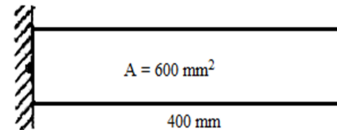

Figure 10
9. (a) Consider a uniform cross-section bar as shown in Figure 10 of length L made up of material whose Young's modulus and density is given by E and ρ . Estimate the natural frequencies of axial vibration of the bar using lumped mass matrix. Consider the bar as one element. [7M]
- (b) For the one dimensional bar shown in Figure 10, determine natural frequencies of longitudinal vibration using two elements of equal length. Take $E = 2 \times 10^5\text{ N}/\text{mm}^2$, $\rho = 0.8 \times 10^{-4}\text{ N}/\text{mm}^3$, and $L= 400\text{ mm}$. [7M]